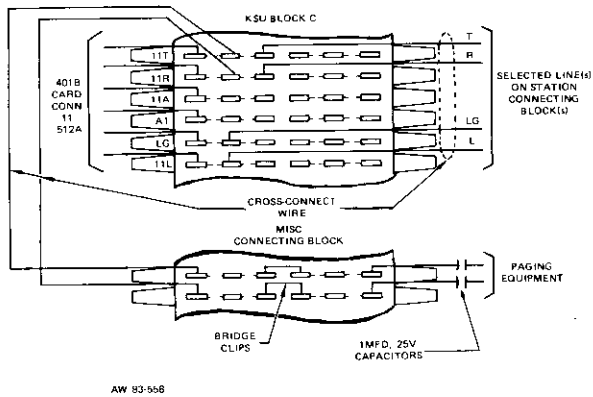

Figure 13: Connecting Details, Intercom KTU to Paging Equipment
- (1) Connect the T, R, L, and LG terminals to the T, R, L, and LG terminals for the selected line key on the assigned station connecting block. If required, multiple the connections to the T, R, L, and LG terminals of the line pickup key(s) for any other assigned station(s). Refer to Figure 13.